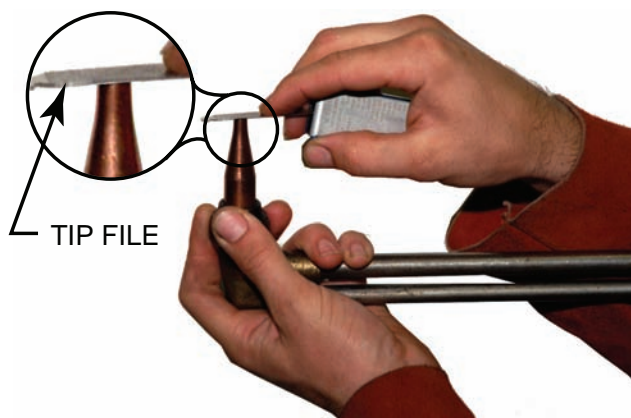

FIGURE 6-16 File the end of the tip flat. Courtesy of Larry Jeffus.
2. The end of the tip is first filed flat, using the file provided in the tip cleaning set, **Figure 6-16**.